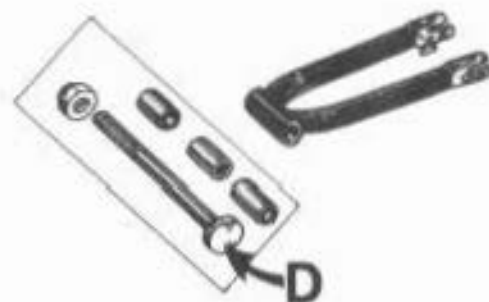

Fig. 41-2
- 7) Remove the rear fork pivot bolt and nut "D" Fig. 41-2 and pull the rear fork out of the frame.
- 9) To install the rear fork reverse the above operations making sure to grease the pivot bolt "D" Fig. 41-2 with general purpose grease and securely tighten the nut. Make sure the pedalling chain and motor chain are inside the shock absorbers before refitting the lower shock absorber bolts.